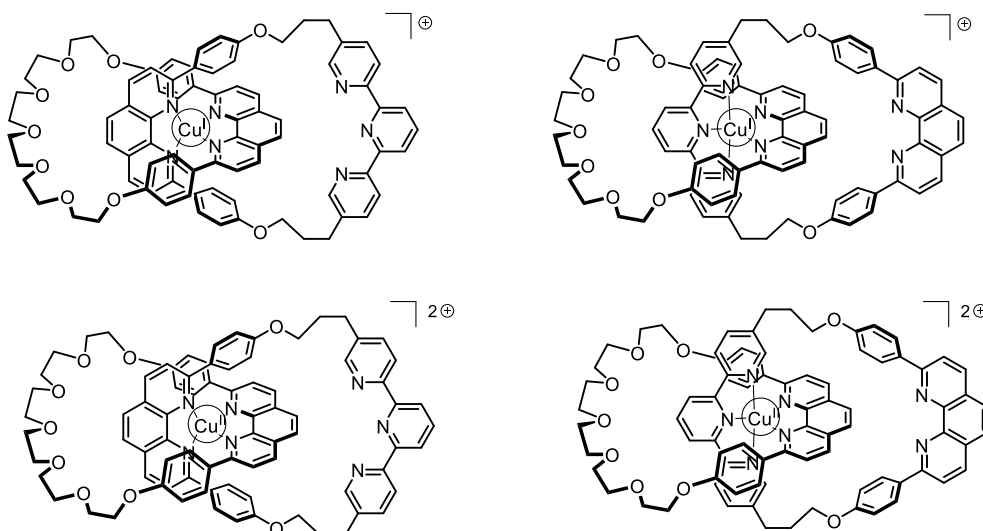

Fig. 2 – [2]catenane **L** states
11. **Fill** in the solid boxes with the complexes in Fig. 2 and **complete** the sequence to achieve electrochemical control of the system using the following notation for the dashed boxes: